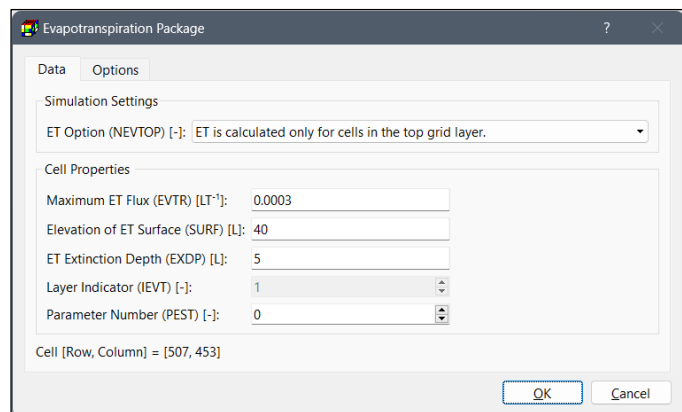

Figure 58. The Evapotranspiration Package dialog box
1. All input methods: Figure 58 shows the dialog box for specifying cell, vertex, or polygon properties.